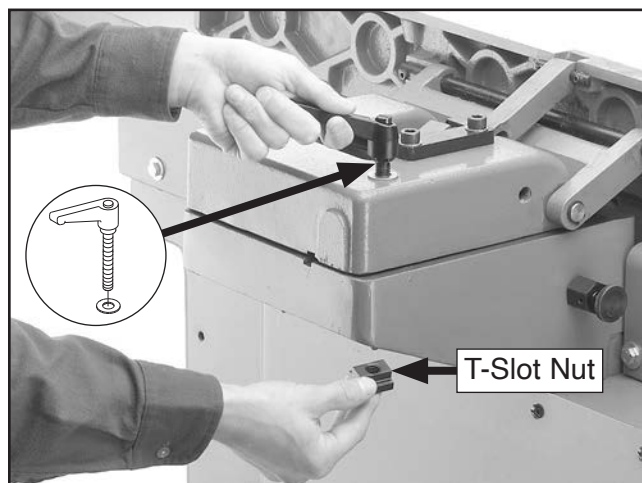

Figure 3. Installing fence lock.
3. Place fence assembly on top of fence support, as shown in **Figure 3**.
4. Slide flat washer onto fence lock shaft, insert shaft into hole on top of fence assembly and through slot of support (see **Figure 3**).
5. Thread T-slot nut onto bottom of lock shaft so nut fits up into slot of fence support (see **Figure 3**).